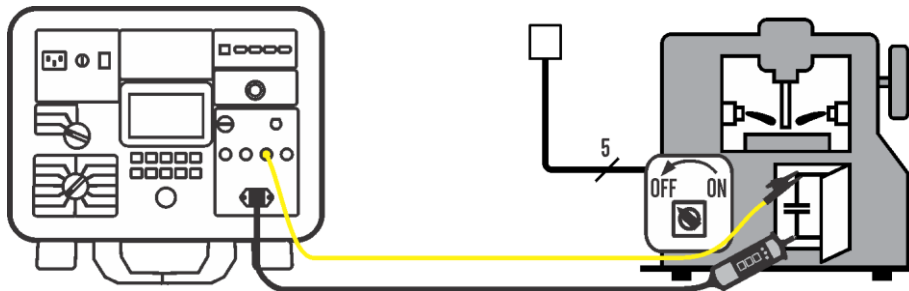

Figure 91: Connection for URES measurement, NON LINEAR mode, example
- 9) Connect test leads according to figure 91 on page 105, see also HELP/CONNECTION menu. Switch ON the UUT, green mains icon will be displayed when the connection is properly done and input voltage UL/PE is stable and within 0 ... 440 VRMS. Sub-result USTART will follow actual input voltage.